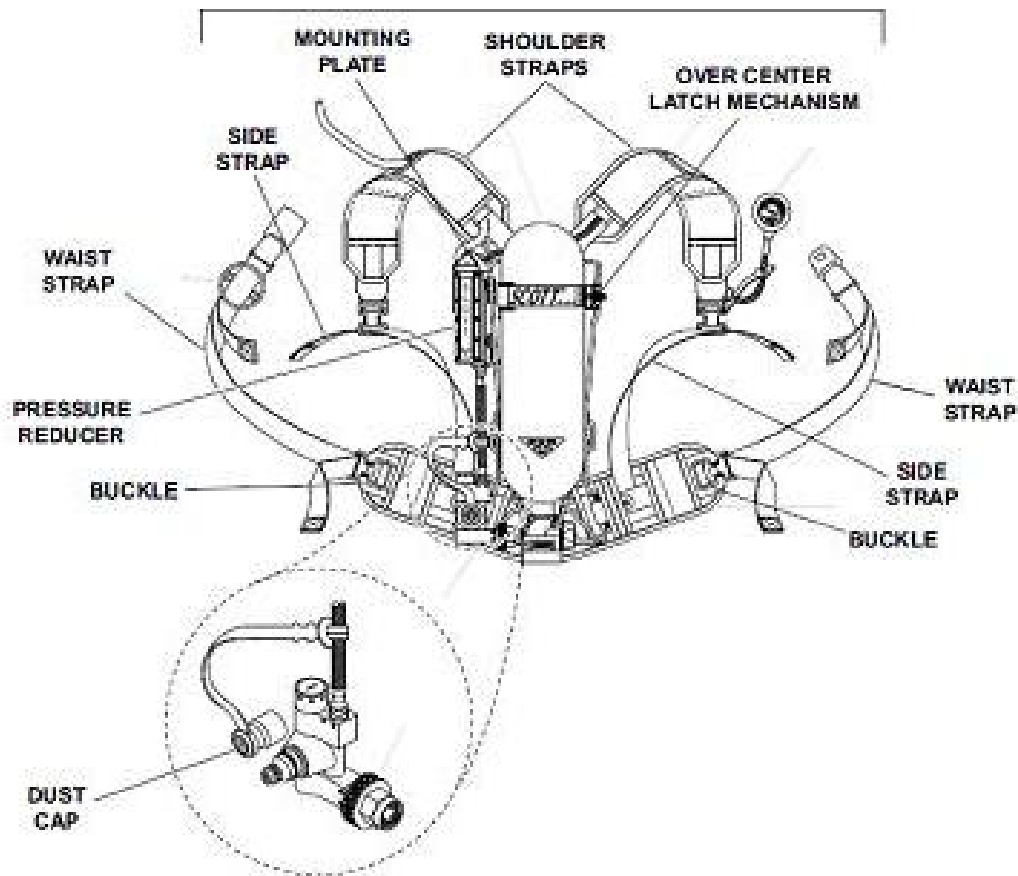

Figure 551-8ST-1004\_04 (Back Frame and Harness Assembly)
c. Check the back frame and harness assembly before use. (Figure 551-8ST-1004\_04)